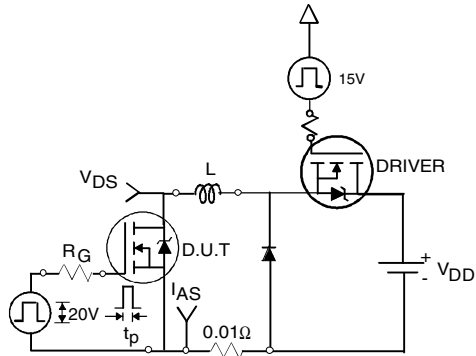

Fig 12a. Unclamped Inductive Test Circuit
3. Equation below based on circuit and waveforms shown in Figures 12a, 12b.
- ③ $I_{SD} \leq 104\text{A}$, $di/dt \leq 100\text{A}/\mu\text{s}$, $V_{DD} \leq V_{(BR)DSS}$, $T_J \leq 175^\circ\text{C}$.
- ④ Pulse width $\leq 400\mu\text{s}$; duty cycle $\leq 2\%$.
- ⑤ C_{oss} eff. is a fixed capacitance that gives the same charging time as C_{oss} while V_{DS} is rising from 0 to 80% V_{DSS} .
- ⑥ Calculated continuous current based on maximum allowable junction temperature. Package limitation current is 75A.
- ⑦ Limited by T_{Jmax} , see Fig.12a, 12b, 15, 16 for typical repetitive avalanche performance.
- ⑧ This is applied to D²Pak, when mounted on 1" square PCB (FR-4 or G-10 Material). For recommended footprint and soldering techniques refer to application note #AN-994.